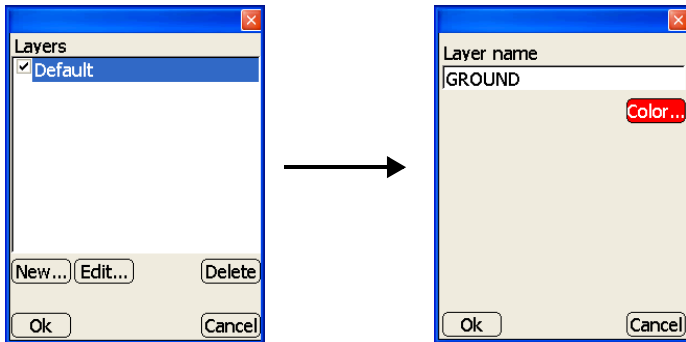

Figure 2-38. Add New Layer
- To add a layer to the Linework file, press **Layers**. On the **Layers** dialog box, press **New**. Enter a name for the new layer and press **Color** to select a color for the layer (Figure 2-38).